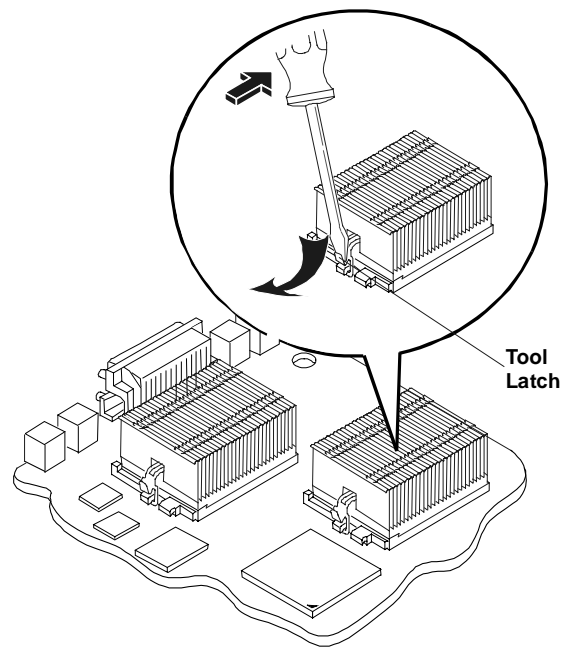

Figure 6-6. Removing the Heatsink
2. Use a flathead screwdriver or similar tool to unhook the tool latch on the heatsink. See Figure 6-6.